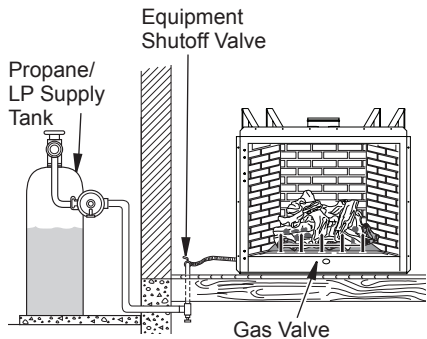
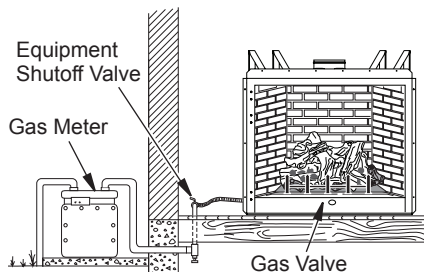

Figure 25 - Checking Gas Joints for Propane/LP Gas Fireplace
Figure 26 - Checking Gas Joints for Natural Gas Fireplace
3. Check all joints from propane/LP supply tank or gas meter to equipment shutoff valve (see Figure 25 or Figure 26). Apply noncorrosive leak detection fluid to all joints. Bubbles forming show a leak.
4. Check all joints from equipment shutoff valve to gas valve (see Figure 25 or Figure 26, page 20). Apply noncorrosive leak detection fluid to all joints. Bubbles forming show a leak. Correct all leaks at once.